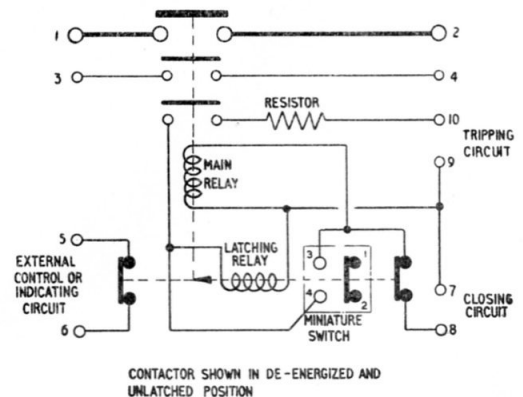

Fig. 4. Circuit diagram
7. A number of auxiliary contacts, shown in fig. 4, are operated by the relays. One pair, connected to terminals 3 and 4, is operated by the main relay armature and closes as the main contacts meet; another pair, connected to terminals 5 and 6 and operated by the latching relay armature, closes as the contactor trips. Both are for external control or indicating purposes. A further pair of contacts in each relay circuit is operated by the armature of the other relay. The function of these contacts is to cut the relay coils out of circuit as soon as they have performed their allotted duty.